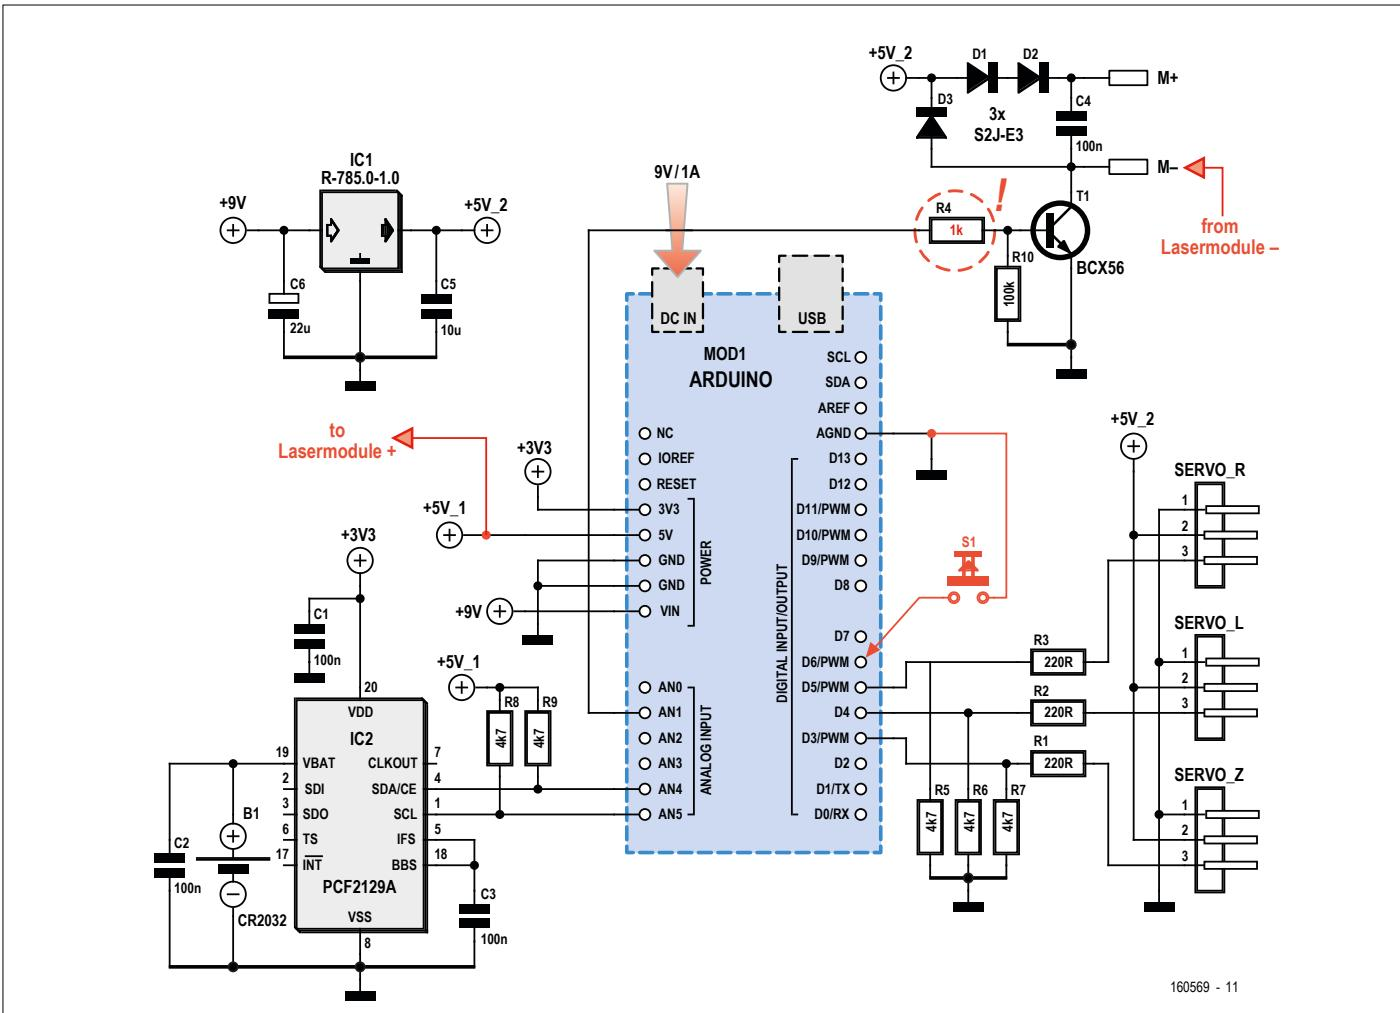

Figure 3. The schematic diagram of the Sand Clock electronics, showing what has to be changed to turn it into a Laser Time Writer.
**Figure 3** shows the full schematic diagram, including the above-mentioned modifications.